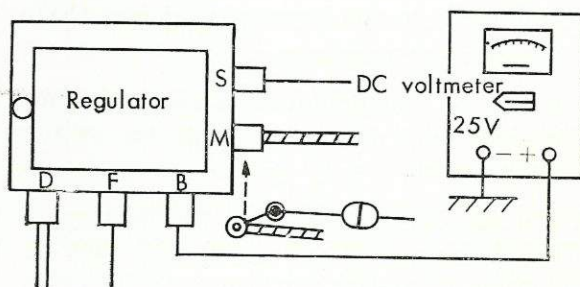

Fig. 26
- b) Check the regulator: Check the voltage regulation value of the regulator by employing wiring connections as shown in Fig. 26.